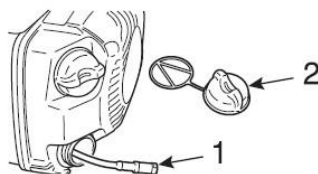

Fig. 20
WARNING! Check the oil filter periodically, a clogged filter (Fig. 20-①) impairs the normal operation of the lubrication system.
1. Unscrew the oil tank cap (Fig. 20-②).
2. Remove the oil filter (Fig. 20-①) from the tank with a metal hook.
3. If the filter (Fig. 20-①) is dirty, wash it with gasoline or replace it.